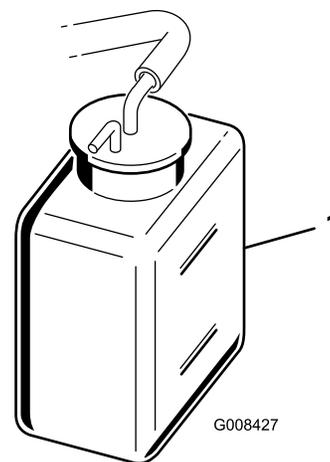

Figure 30
2. Check the coolant level (Figure 30). It should be between the lines on the reserve tank when the engine is cold.